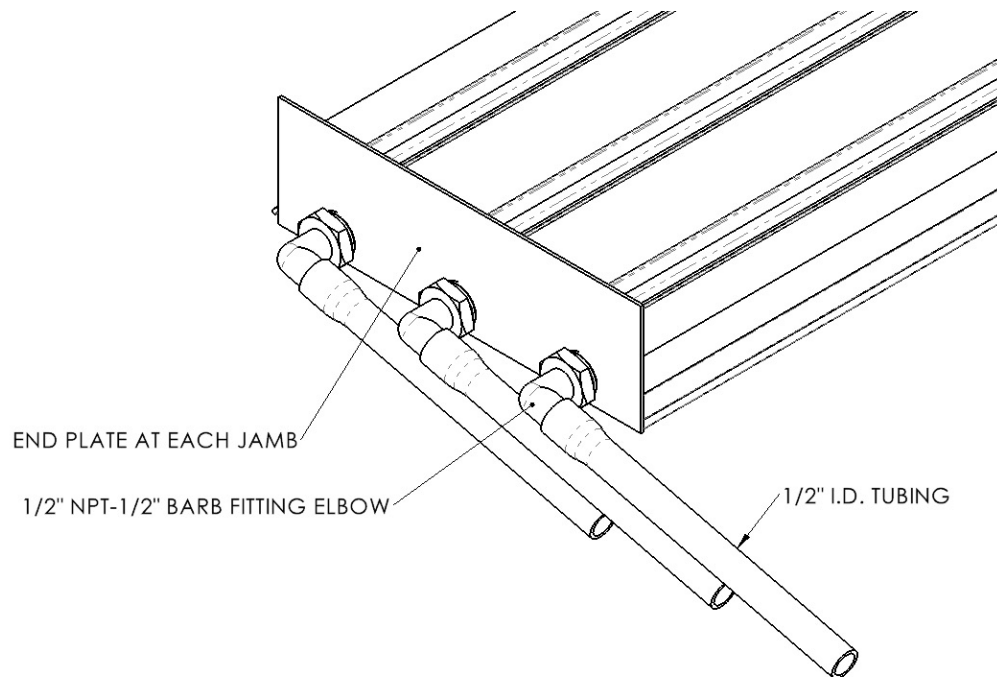

Figure 5
- Side Drain Fitting Sill (See Figure 5).
downward slope of at least $\frac{1}{4}$ " per foot. (See Figure 5). Skip to step 10.